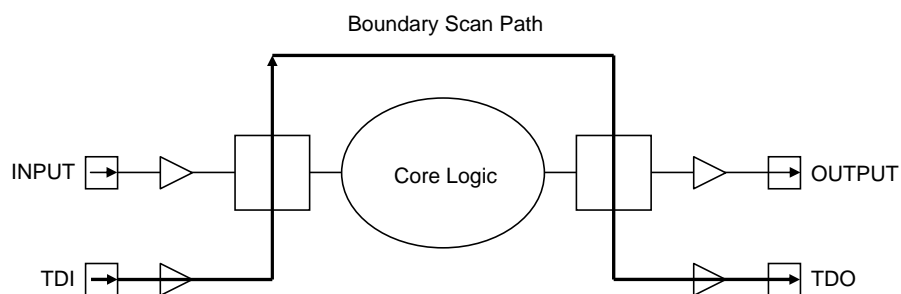

Figure 21.10 Test Data Flow While PRELOAD is Selected
- **PRELOAD** allows the boundary scan register to be initialized before another instruction is selected. For example, prior to selection of the EXTEST instruction, initialization data is shifted into the boundary scan register using PRELOAD as described in the previous subsection. PRELOAD permits shifting of the boundary scan register without interfering with the normal operation of the system logic. The flow of data for the PRELOAD phase of the SAMPLE/PRELOAD instruction is shown in Figure 21.10.